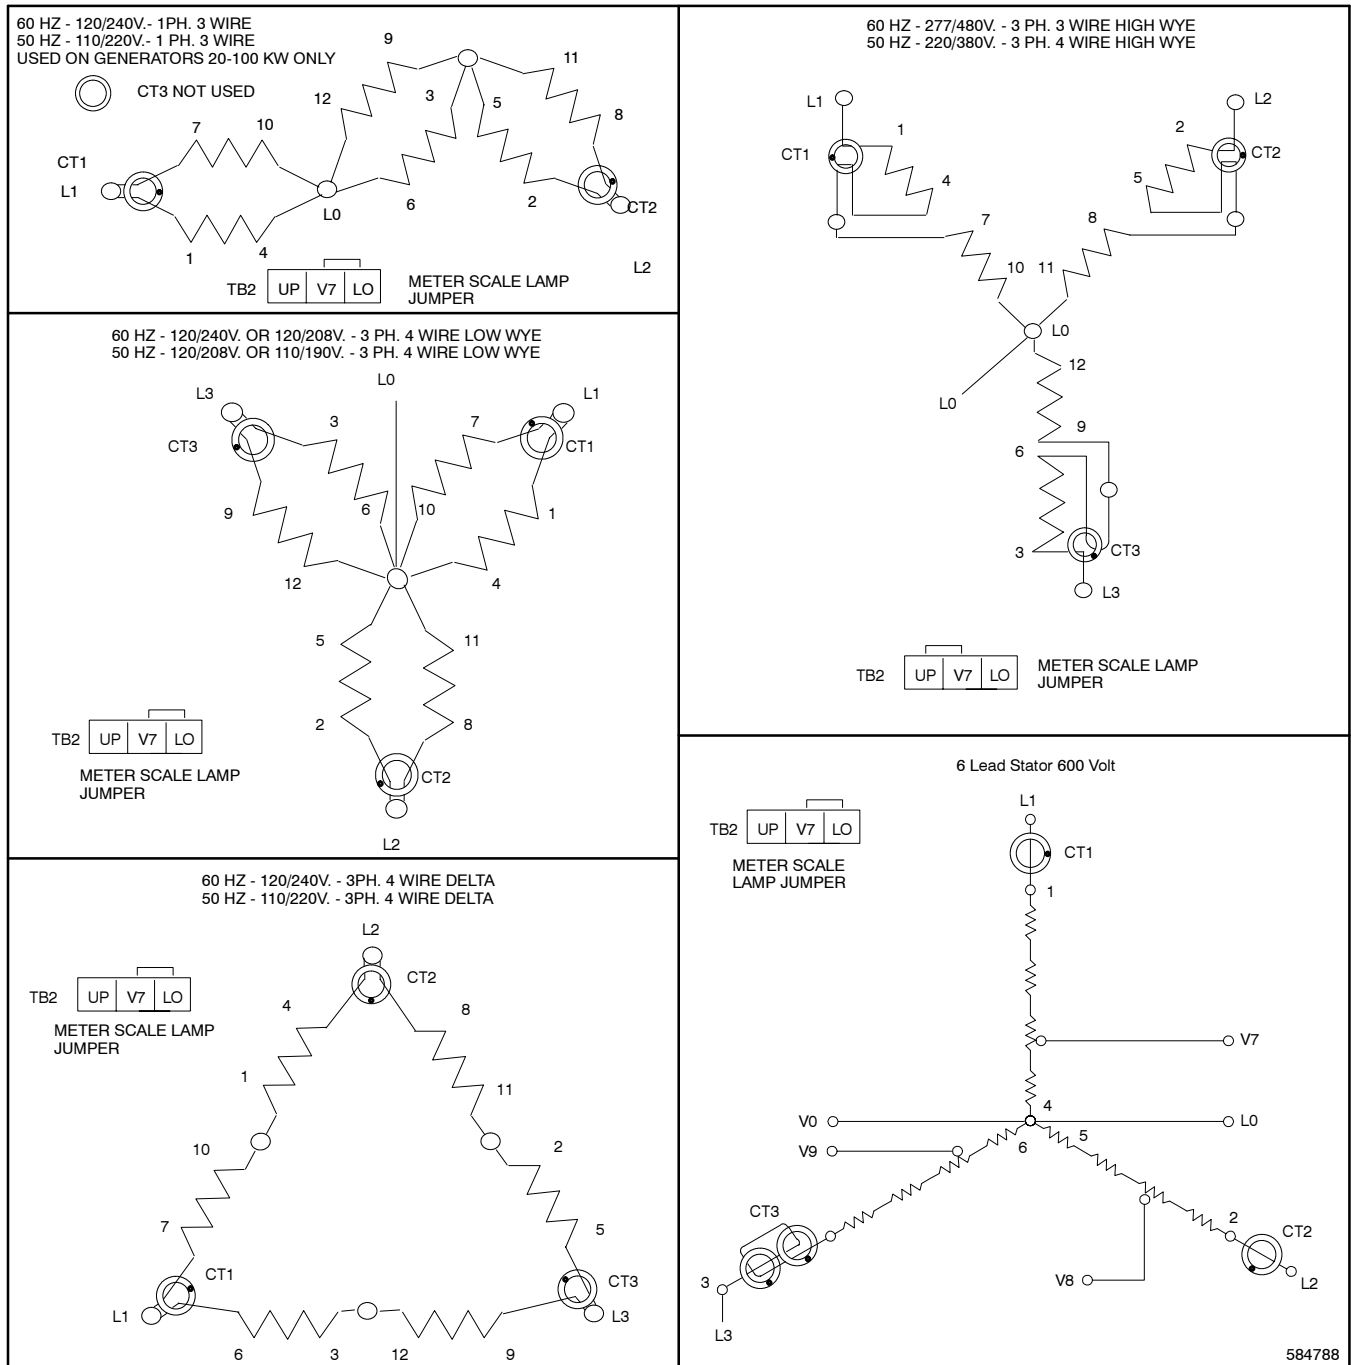

Figure 7-8 Generator Reconnection
Reconnect 3-phase, 12-lead generator sets to the voltages and phases shown in Figure 7-8. If reconnecting the generator set obtains a different output voltage, adjust voltage regulator voltage adjustment to obtain desired voltage.
3. Select desired voltage connection from Figure 7-8. Route leads through current transformers and connect according to the diagram for desired phase and voltage.
4. If controller has meters, remove controller cover and reposition meter scale lamp jumper to match meter scale lamps with desired voltage. See Figure 7-8.